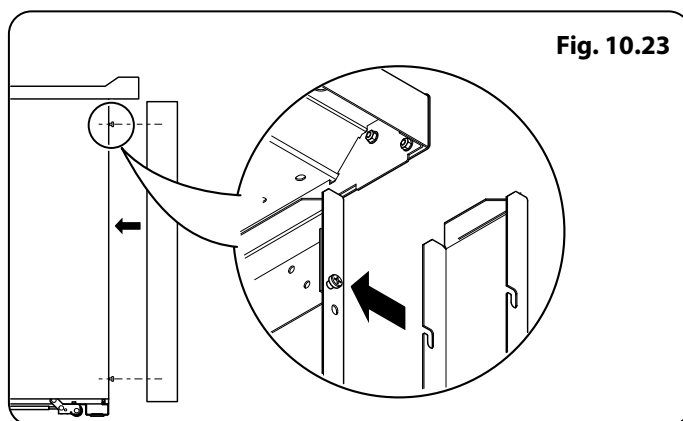

Fig. 10.23
2. Using the cut-outs, site the side extension onto the protruding screw heads (Fig. 10.23).